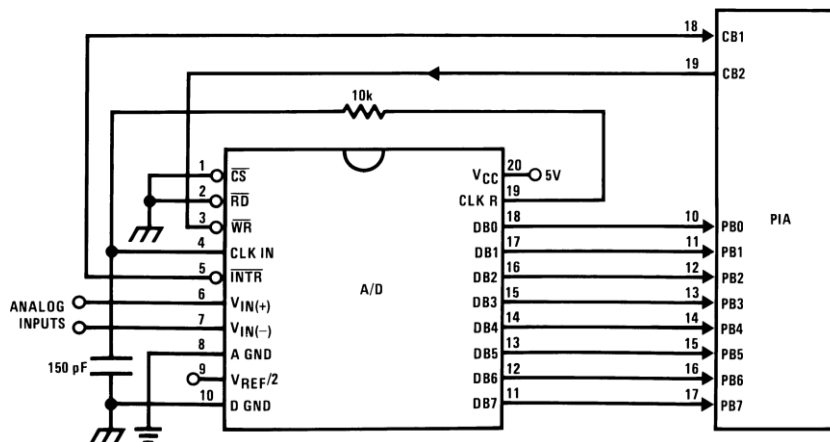

Figure 60. ADC0801–MC6820 PIA Interface
In Figure 60 the ADC0801 series is interfaced to the M6800 microprocessor through (the arbitrarily chosen) Port B of the MC6820 or MC6821 Peripheral Interface Adapter, (PIA).
A sample interface program equivalent to the previous one is shown below Figure 60. The PIA Data and Control Registers of Port B are located at HEX addresses 8006 and 8007, respectively.
**SAMPLE PROGRAM FOR Figure 60 ADC0801–MC6820 PIA INTERFACE**